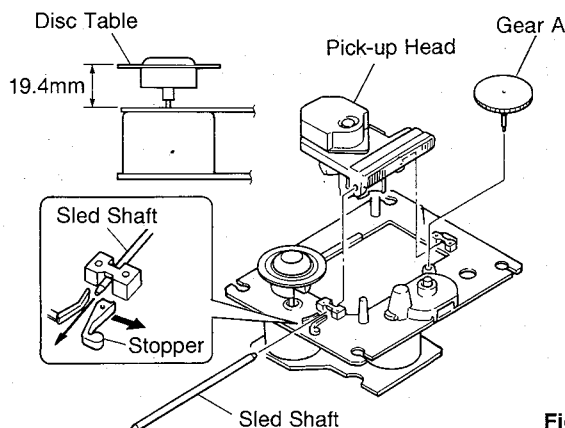

Fig. 5
- c. Remove the gear A in Fig. 5.
- d. Pull out the Sled Shaft in Fig. 5.